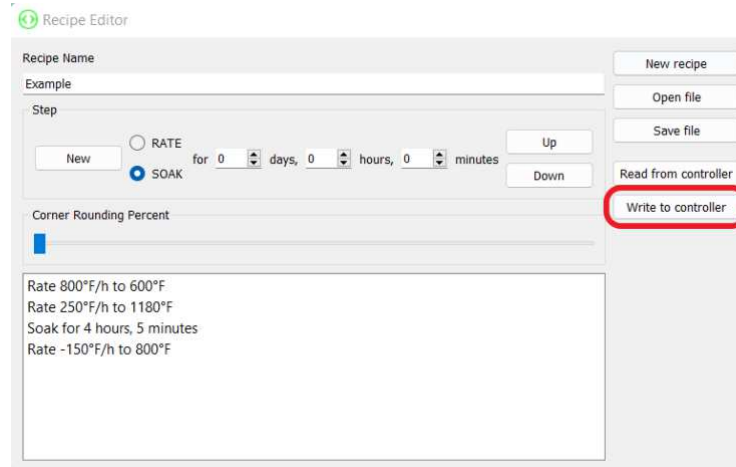

Figure 80: Recipe Editor – ‘Write to Controller’ Button
1. Click the ‘Write to controller’ button highlighted in Figure 80 below to open the ‘Select Channel’ window.